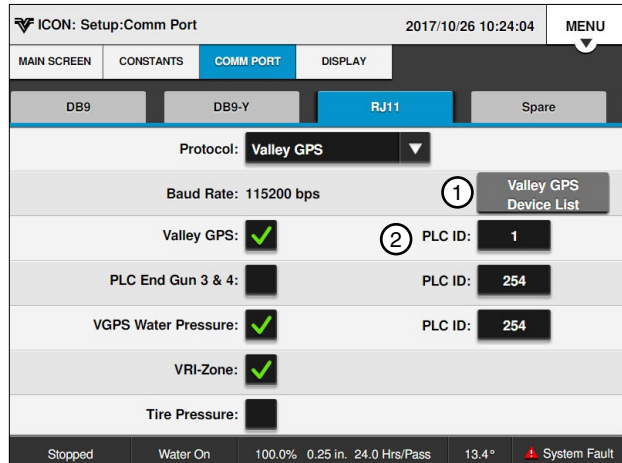

Figure 40-1 1. Valley GPS Device List
Refer to Figures 40-1 and 40-2.
1. Select the **PLC ID** field. Refer to Figure 40-1.